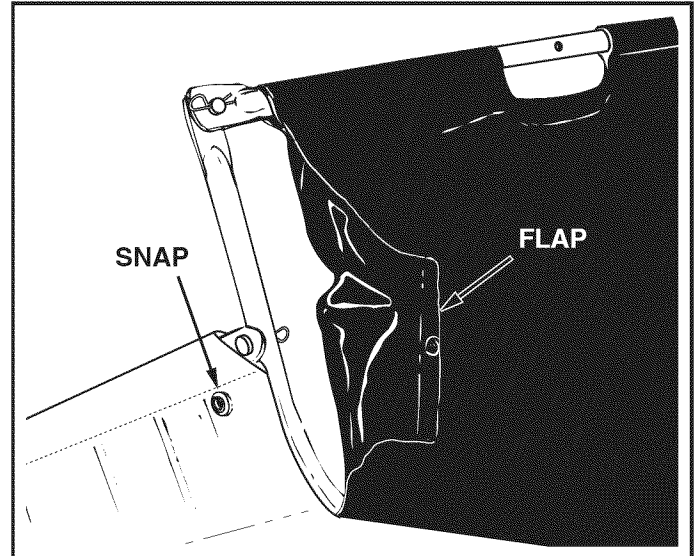

FIGURE 12
- Fold the bag flaps around the lower hopper tubes and attach to the bag bottom using the snaps. See figure 12.